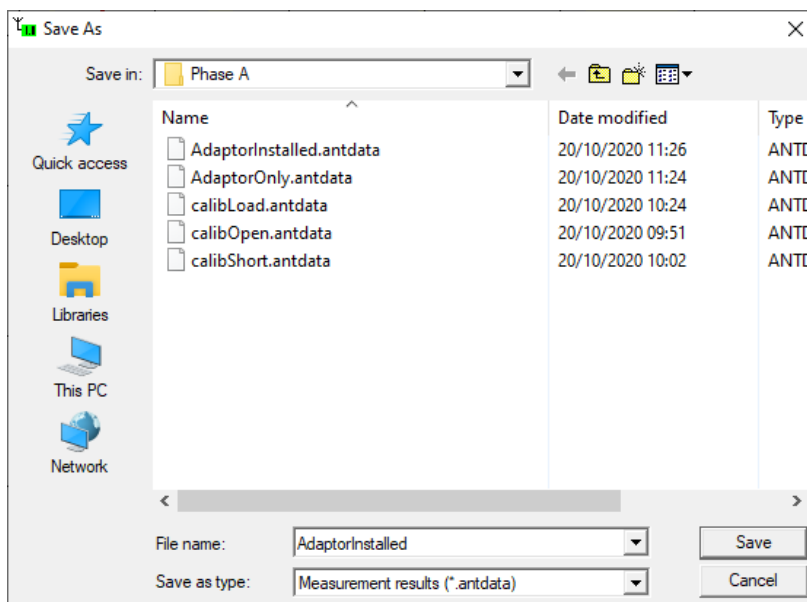

Figure 9-45: Save As “AdaptorInstalled”
3. Select **File > Save As** and type the filename `AdaptorInstalled` as shown in Figure 9-45.